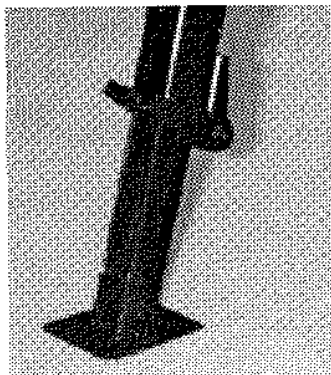

Fig. 3
4. Now release spring loaded, self-storing stabilizer jacks. Base of this jack is attached to frame. Grip jack and push toward center of camper approximately 5/8". It will require a fair amount of effort to release and swing down as in Fig. 3. Now extend the jack "foot" by pushing it to the ground. More tension can be placed on the jack feet by using the long jack handle supplied in each unit. Ensure that too much force is not applied to the jack handle. Doing so may cause the holes in the jack legs to expand, breaking out the dividers and causing adjustment problems in the entrance door. One notch should be sufficient. **DO NOT** place excessive weight on these jacks as they are intended to stabilize, not support the camper. The camper should be level.
7. Loosen any tension on stabilizer jacks by pressing adjustment tab on jack downward. Using both hands, slide telescoping foot upwards fully. Pull jack downward 5/8" and swing towards center of camper until spring loaded catch slips into slot. Fig. 3.